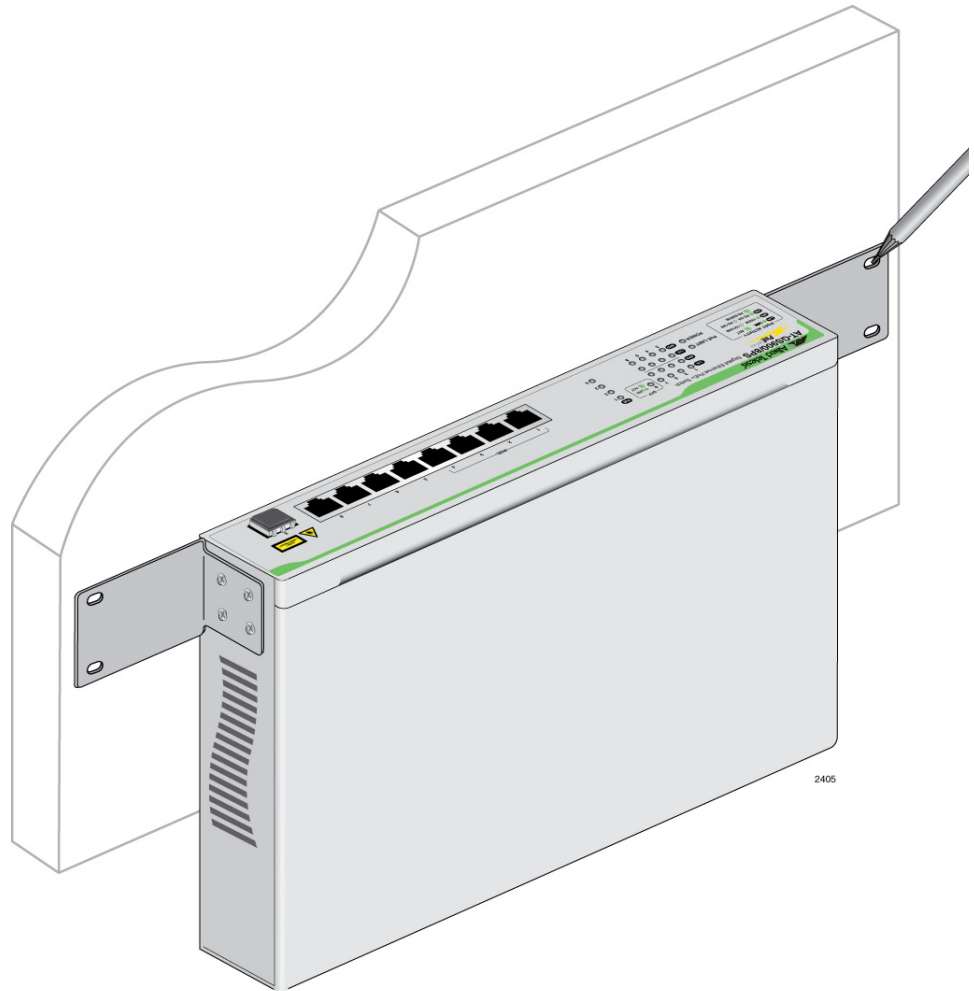

Figure 9. Marking the Screw Hole Locations
4. Have another person hold the switch at the wall location where the switch is to be installed, while you use a pencil or pen to mark the wall with the locations of the four holes in the brackets. The switch should be oriented such that its front faceplate is facing up and is level to the floor. See Figure 9 on page 41.